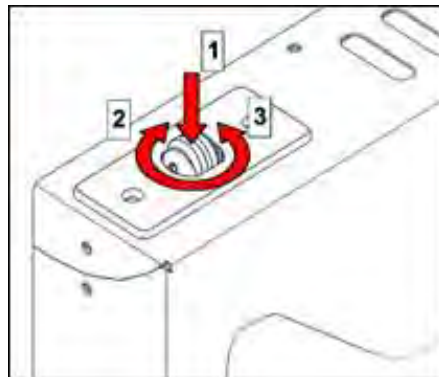

Figure 16 – Door catch
- 5.3.2 If there are issues with closing of the door, try adjusting the catch (**Fig 16**). Use your hands or an appropriate implement to push down on the roller **1** as shown. Whilst holding it down, turn it right **2** to adjust it down, or left **3** to adjust it up as shown.